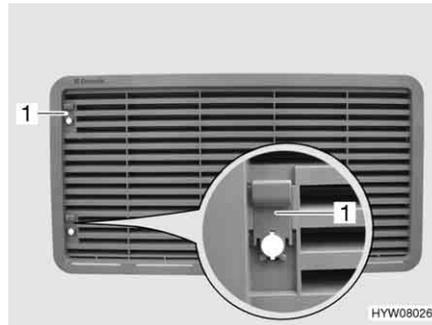

Fig. 191 Refrigerator ventilation grill (with sliding trap)
- Push sliding trap (Fig. 191,1) upward.